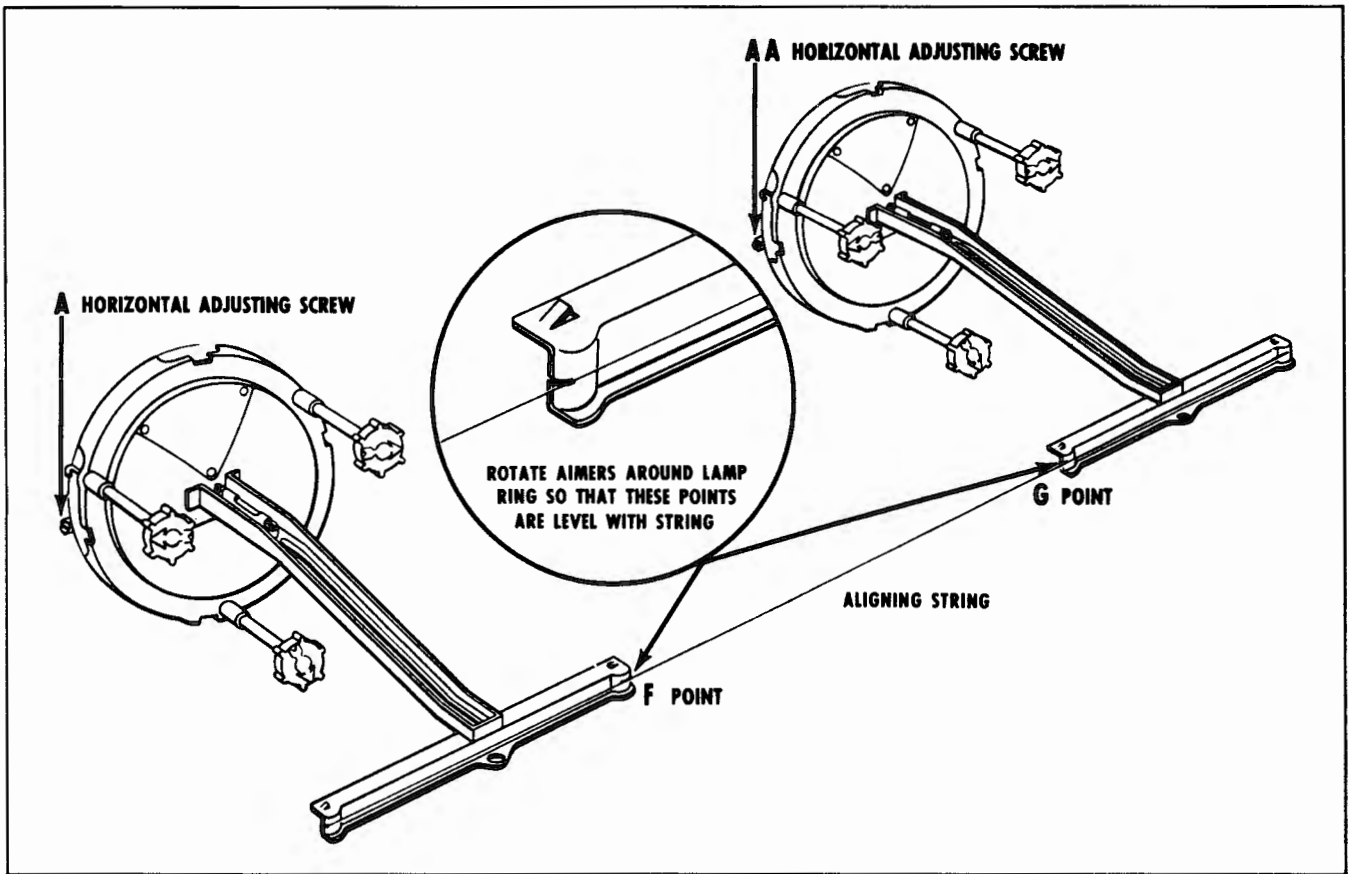

Fig. 12-65 Horizontal Adjustment
a. Adjust left headlamp by turning horizontal adjusting screw AA in or out to make string first touch point G (Fig. 12-65). Final adjustment of screw should be in clockwise direction.